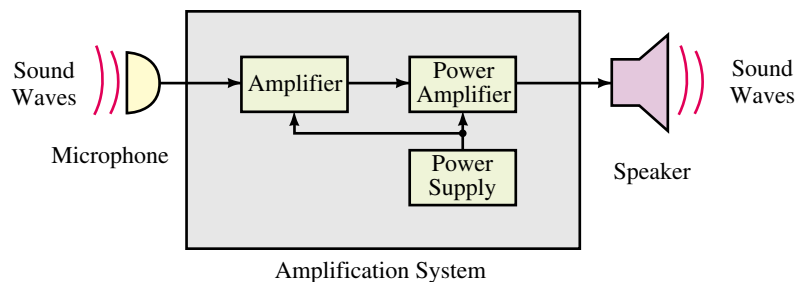

FIGURE 1–5 An example block diagram. Pictured is a simplified representation of an audio amplification system.
Block diagrams describe a circuit or system in simplified form. The overall problem is broken into blocks, each representing a portion of the system or circuit. Blocks are labelled to indicate what they do or what they contain, then interconnected to show their relationship to each other. General signal flow is usually from left to right and top to bottom. Figure 1–5, for example, represents an audio amplifier. Although you have not covered any of its circuits yet, you should be able to follow the general idea quite easily—sound is picked up by the microphone, converted to an electrical signal, amplified by a pair of amplifiers, then output to the speaker, where it is converted back to sound. A power supply energizes the system. The advantage of a block diagram is that it gives you the overall picture and helps you understand the general nature of a problem. However, it does not provide detail.
- d. 18 (US) gallons to liters
5. If the surface mount robot machine of Figure 1–3 places 15 parts every 12 s, what is its placement rate per hour?
11. Suppose $s = vt$ is given, where s is distance travelled, v is velocity, and t is time. If you travel at $v = 60$ mph for 500 seconds, you get upon unthinking substitution $s = vt = (60)(500) = 30,000$ miles. What is wrong with this calculation? What is the correct answer?